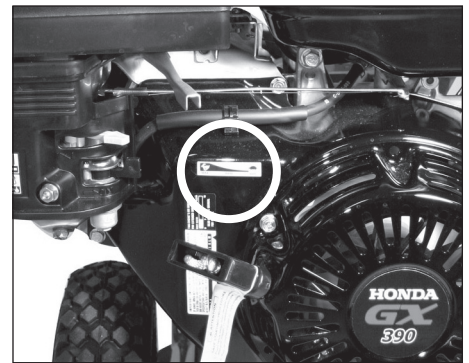

Figure 18 - Throttle
6. Open the fuel shutoff valve by turning the lever to the right / "ON" position. Close the choke (if the engine is cold) by moving the choke lever fully to the left. Move the throttle fully to the left to the "Run" or "Rabbit" position. Turn the ON / OFF switch to the "ON" position (see Figure 18).